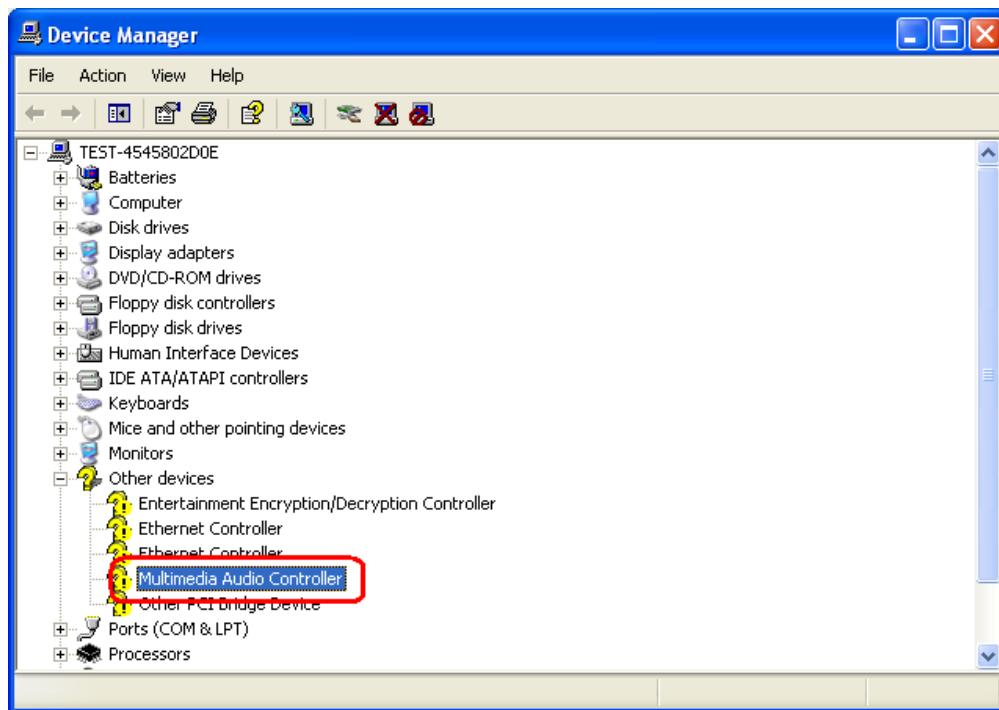

Figure 7-16: Audio Controller (Device Manager)
Step 29: Right-click the **MULTIMEDIA AUDIO CONTROLLER** option listed under **OTHER DEVICES** in **Figure 7-16**.